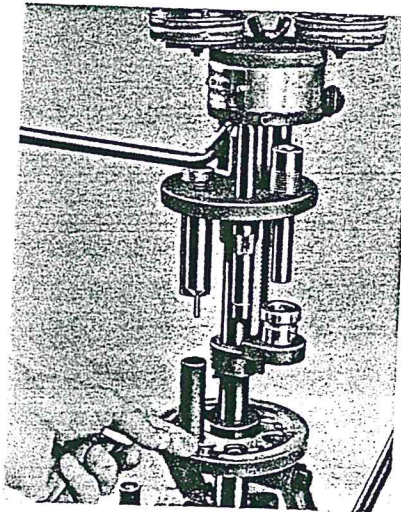

Fig. 2
2. Now, insert a new primer into recess in rotating shell holder to the right of shell you just decapped. (Figure 2). Take another empty shell casing, proceed as